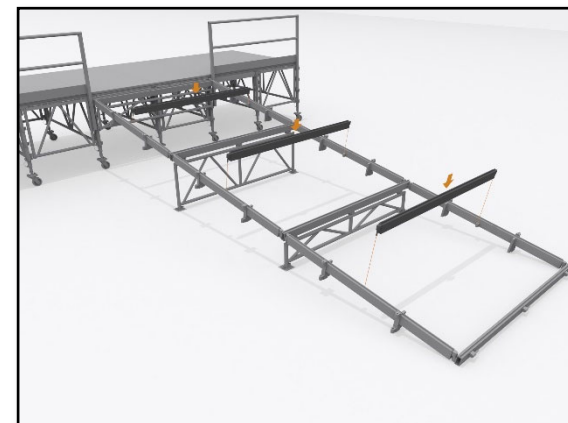

Fig. 48 – Secondary Beam Type Two's
- 9.5.23 Between all of the Secondary Beam Type One's, insert the connections each end of Secondary Beam Type Two. 3 off positions. This beam supports the deck edge. *Fig. 48 – Secondary Beam Type Two's*